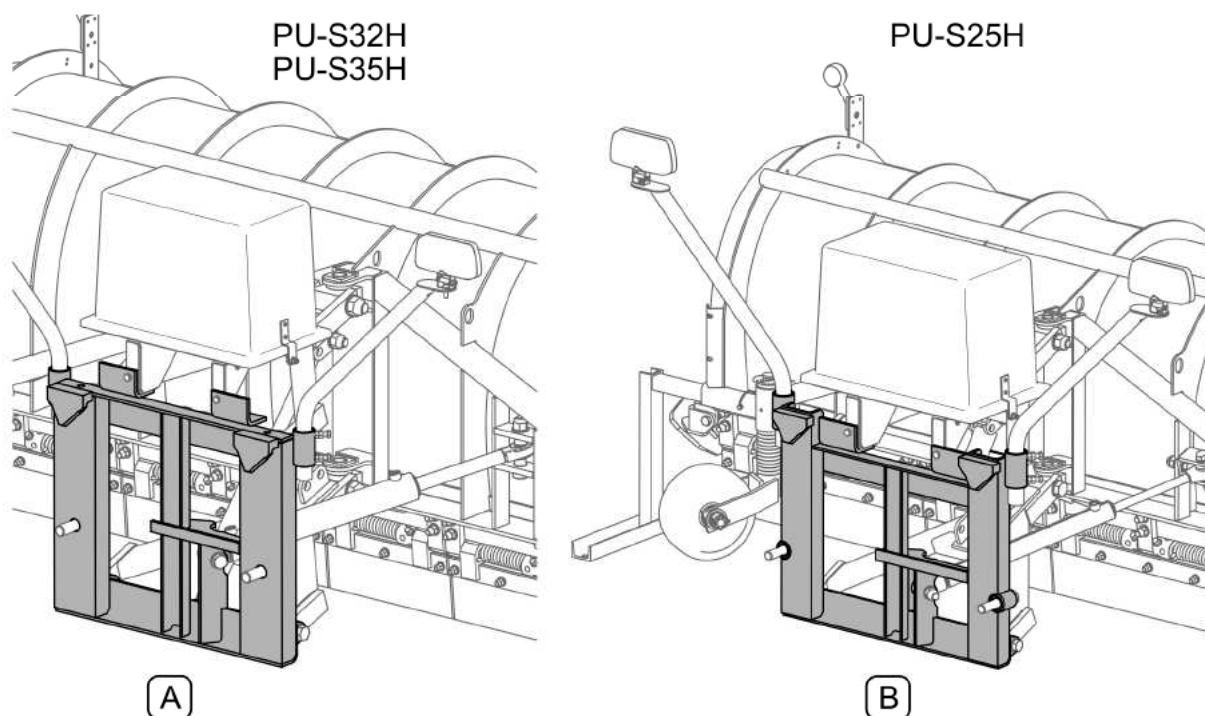

FIG. 4.1 Types of linkage system depending on the plough model
The linkage system of PU-S25H (B) plough complies with DIN 76060 standard (type B), while PU-S32H and PU-S35H ploughs are equipped with linkage system of type A (FIG. 4.1).